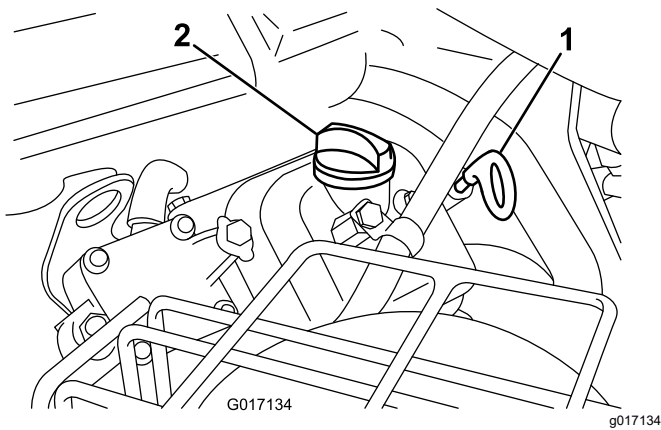

Figure 40
3. Insert the dipstick into the dipstick tube and thread it into the tube (Figure 40).